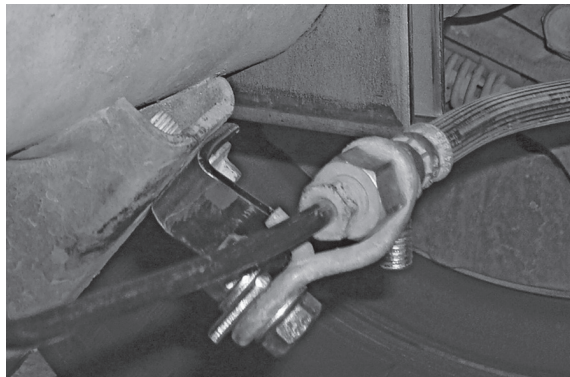

fig. 11
- Install 5/16" x 1" hex head cap screws (H), flat washers (K) and 5/16" lock nut (J). Torque to 15 lb.-ft. (fig. 11).